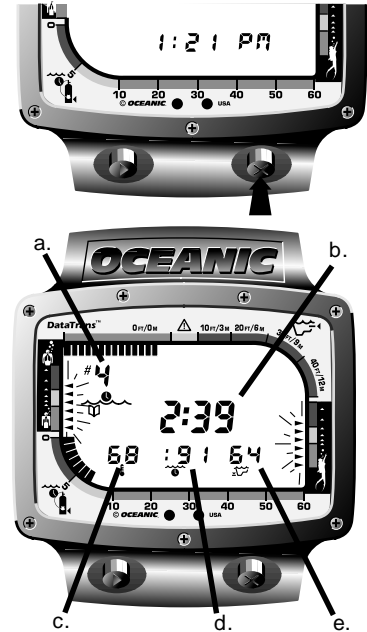

Fig. 35 – Dive Log Information
6. Press the Advance button once more to view the actual dive information (Fig. 35). Displayed will be: Log Mode Icon, Dive number (35a), Surface Time - between that dive and the one previous to it (35b), water Temperature (35c) at the end of the dive, Bottom Time (35d), and Maximum Depth (35e). If the dive shown in the log display was the only one of the day, Surface Time will represent the time between initial activation and the beginning of the first dive. Also shown will be the TLBG reading recorded at the end of the dive, and the maximum value reached on the VARI and the ACI bar graphs.